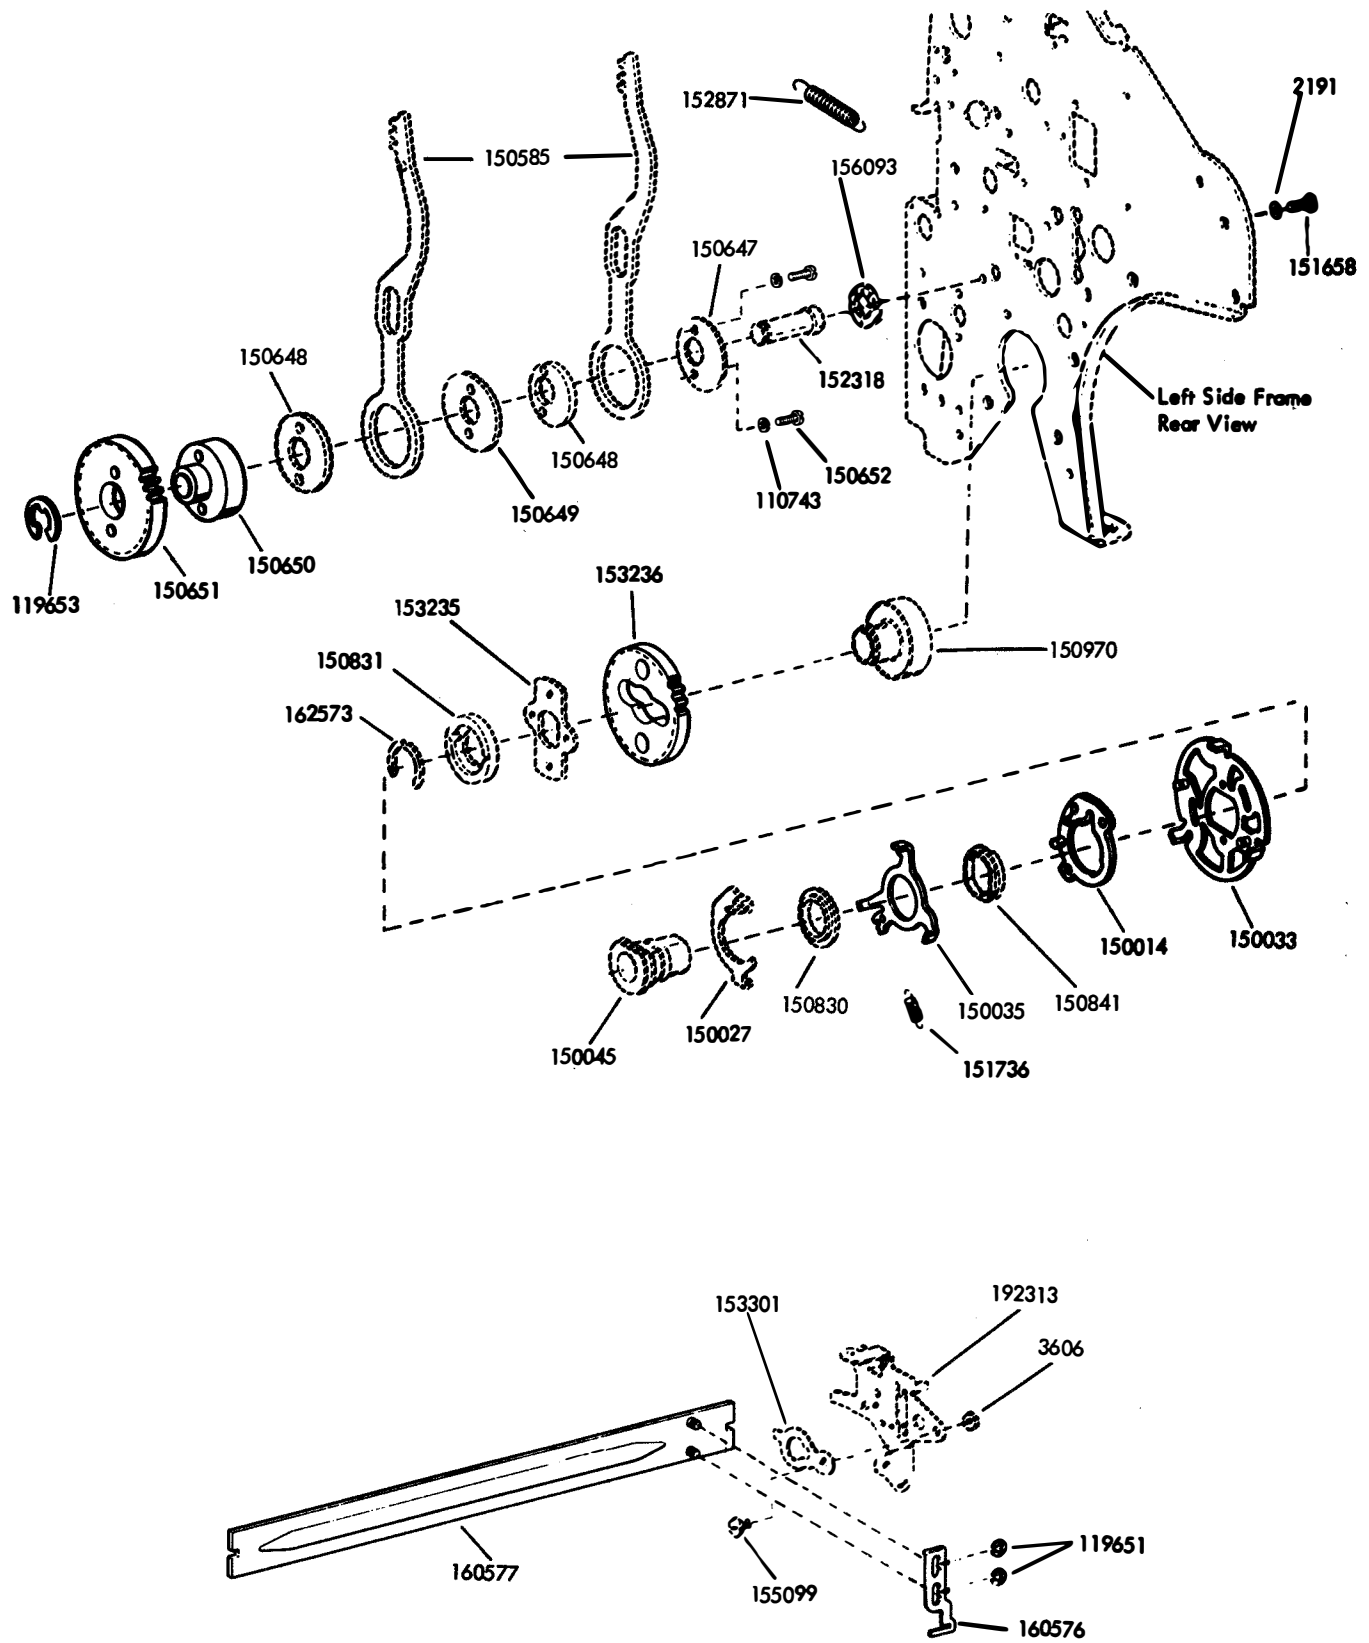

Figure 1 - 325967 Modification Kit
- 2.04 Remove the line feed clutch from the main shaft and modify as follows. Disassemble line feed clutch as shown in Figure 1.
- (f) Reassemble the line feed clutch as shown in Figure 1.
- 2.08 Modify the line feed pawl assembly as follows. Disassemble line feed pawl assembly as shown in Figure 1.
- (e) Reassemble line feed pawl assembly as shown in Figure 1.